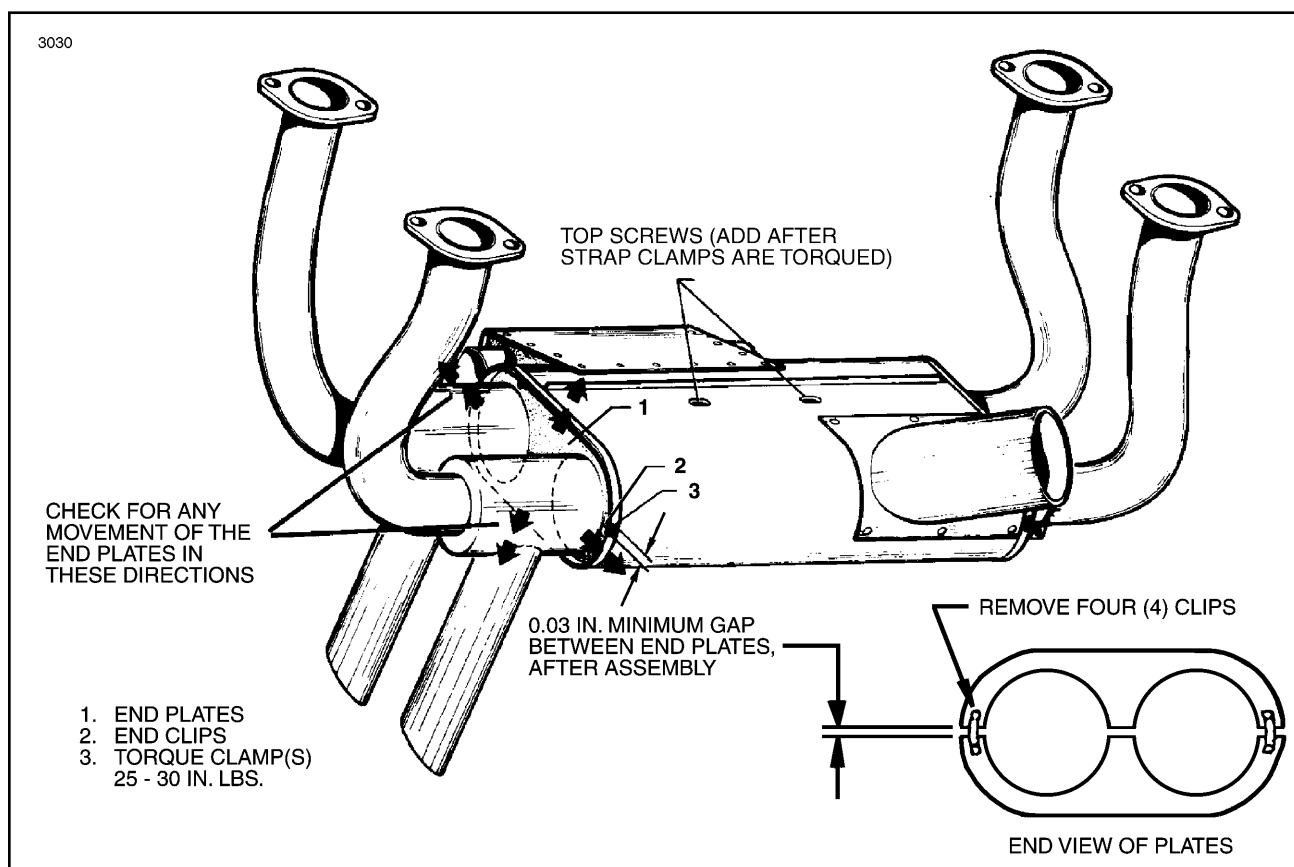

Figure 3-20. Exhaust System Installation, PA-28R-180, -200
(Refer to Figure 3-20.)
- Check for any movement between the heater muff end plates and the muffler pipes in the directions shown on Figure 3-20. If there is no movement, the muffler assembly is acceptable.